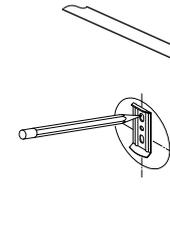
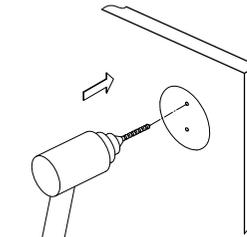

Fig. 2
Fig. 3
- Step 2. Place the mounting plate in the center of the pencil outline you just made and mark the location of the mounting screws (fig 2). Drill holes at the marked locations (fig 3).